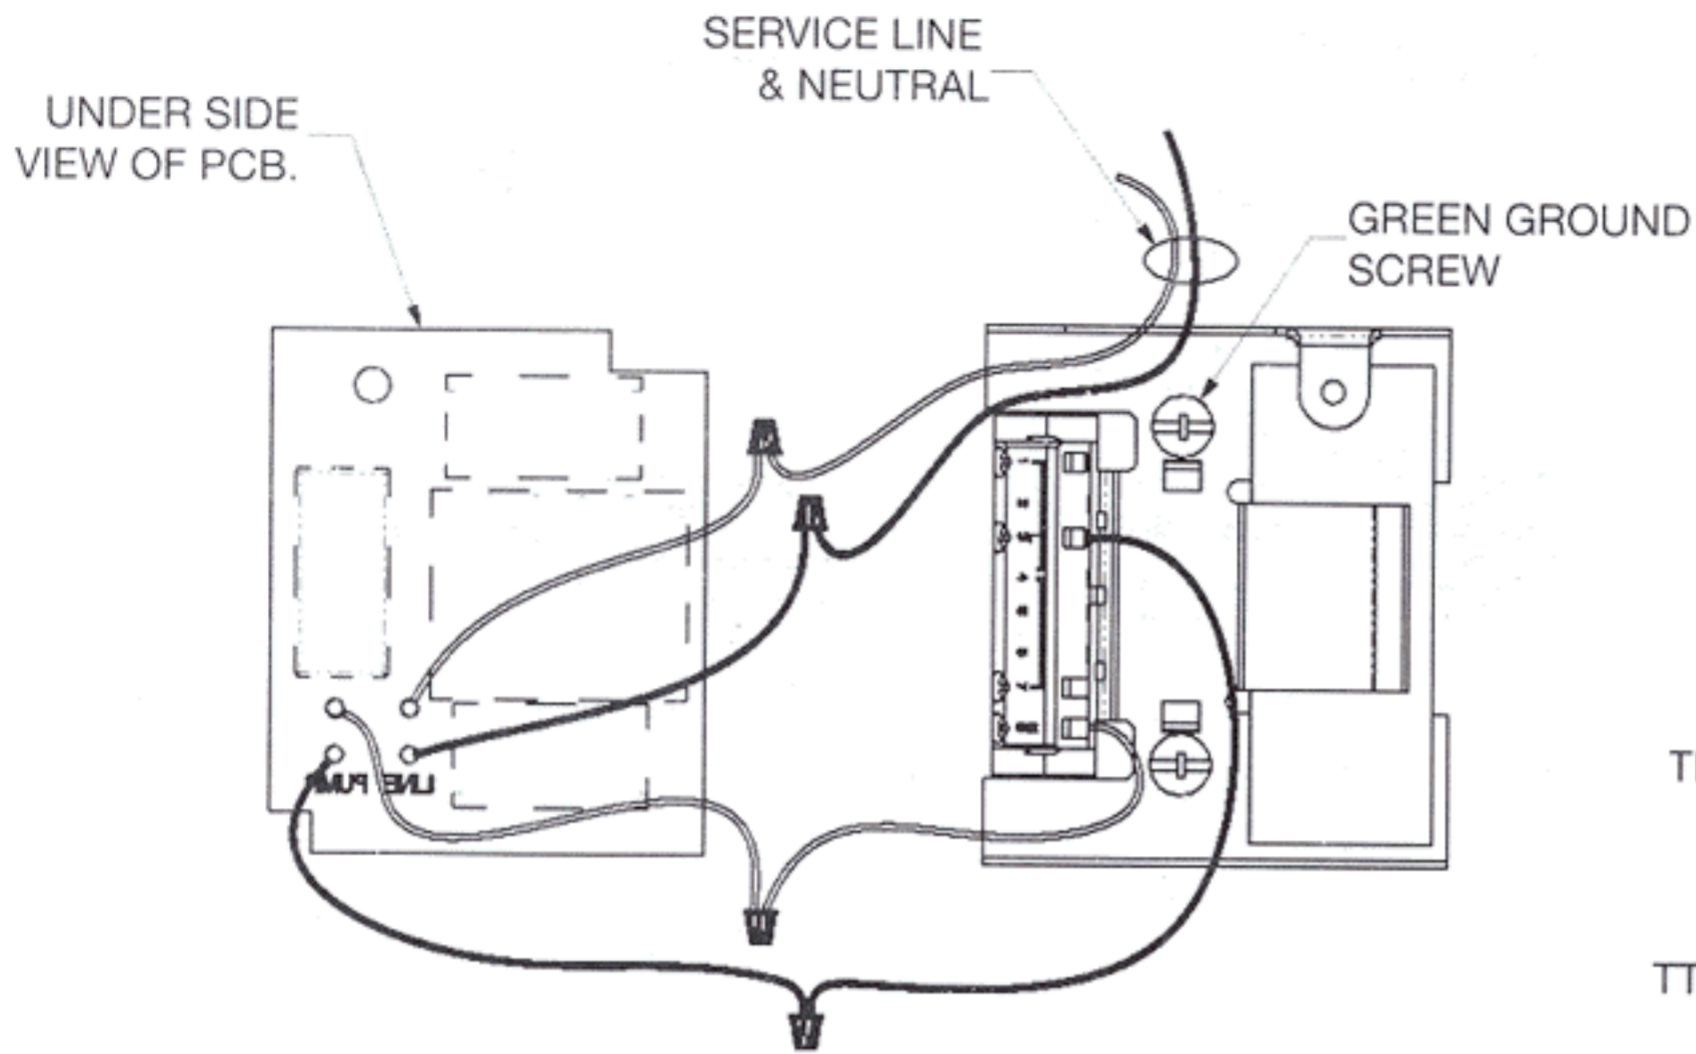

Figure 1: Wiring Add-A-Zone to Pump & Power Source
7. Make the electrical connections according to the wiring diagram provided. (See Figure 1) Run the pump power wiring through one of the holes in the metal conduit box. Do not attach conduit to the hole in the plastic base. This hole is only for 24 volt control wiring. Use 14 AWG copper electrical wire with a minimum temperature rating of 90°C. Refer to your electrical code for wiring restrictions.